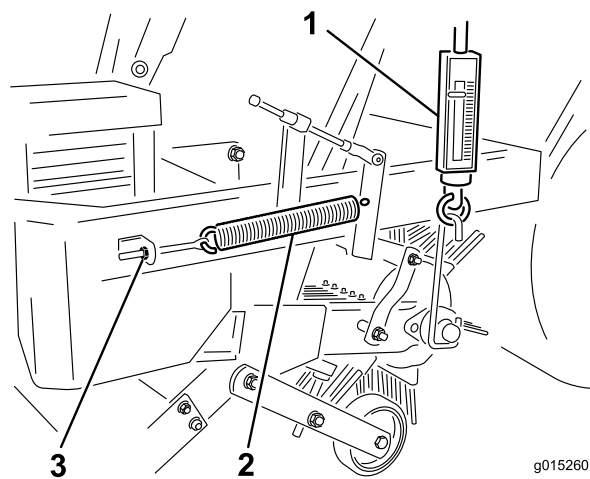

Figure 10
- Pull the rake lever rearward to lower the flex tip reel or broom (Figure 10).